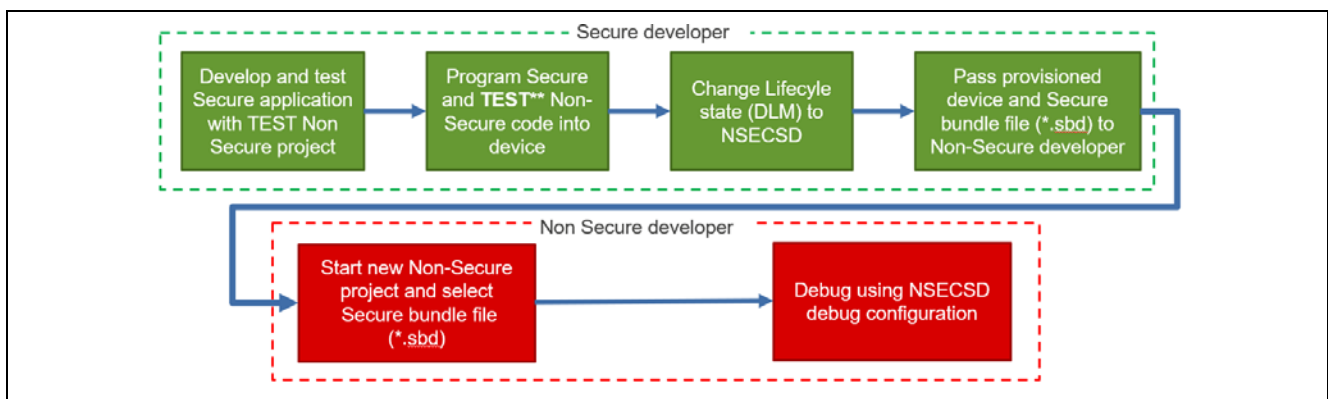

Figure 42. Development Flow for Developing in NSECSD State
- See Figure 42 for details on the general flow to support Non-secure project development in the NSECSD state.
For the Split Project Development Model, the Non-secure application developer receives the MCU in the NSECSD state. As mentioned towards the end of last section, special handling is needed to enable development in the NSECSD state. Figure 42 is a summary of the general flow for developing in the NSECSD state.